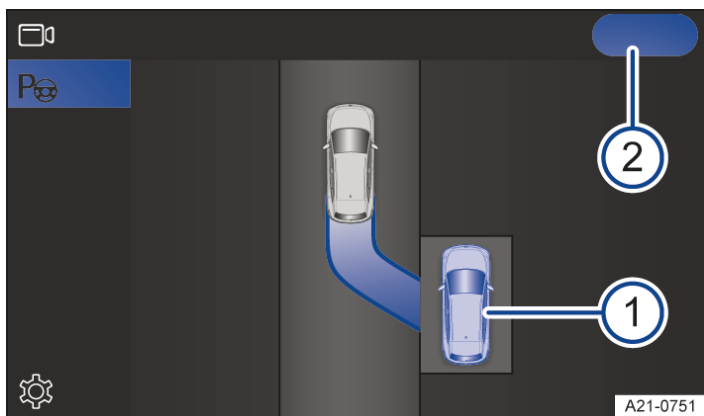

Fig. 1 Infotainment system: procedure for driving out of a parking space (illustration).
- ① Vehicle in a parallel parking space.
- ② Start to drive the vehicle out of the parking space.
5. Tap **START** on the Infotainment system screen → Fig. 1 ②.